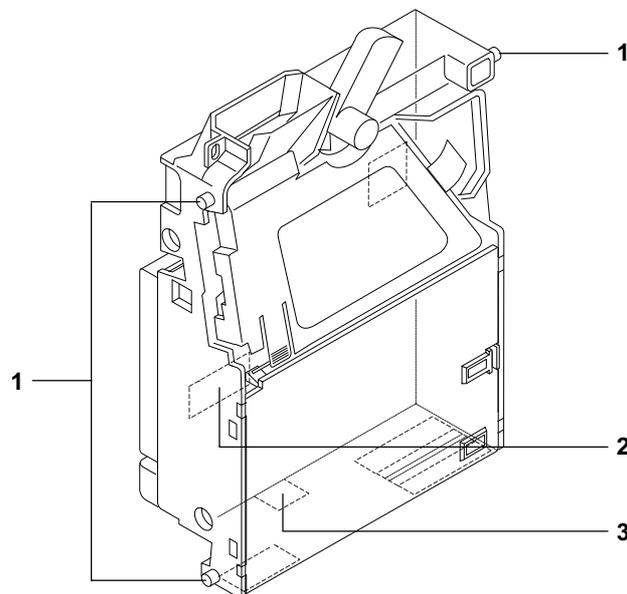

Fig. 4: Installation
- 2** Hang the coin validator in the machine using the lateral mounting studs **1** (see Fig. 4).
- 3** Connect the coin validator to the machine using the 10-pole S1 interface **2** provided and the appropriate connecting cable (see Fig. 4).
If you wish the G-40 S1 to be set on the PC using the diagnostics and configuration software WinEMP, the following device environment is connected to the S1 interface **2** of the coin validator (see Fig. 4 and section "Accessories" in Chap. 10 "Technical data"):